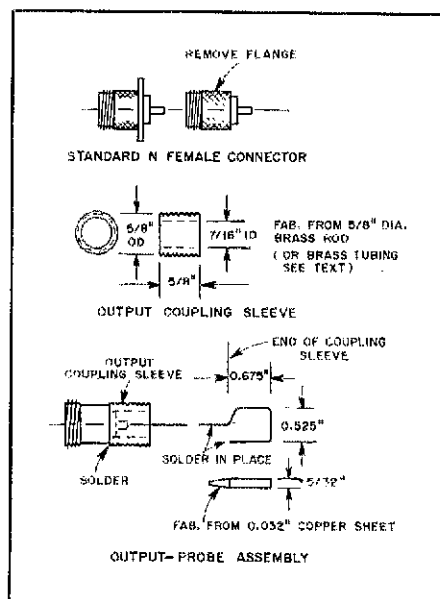

Fig. 7 — Output-probe/connector assembly details.
- J2 — Modified Type-N connector. See text and Fig. 7.
- L2 — Output-coupling loop. Part of output-connector assembly. See text and Fig. 7.
sheet that is 5/32 inches wide. Bend it to the dimensions shown in Fig. 7. We will solder the output connector together later.
connector (silver plated) is used for the output probe/connector. See Fig. 7. First, remove the flange with a hacksaw and file flush with the connector body. Next, make the output-coupling sleeve that is right for your application (threaded or unthreaded, depending on how you fabricated the ring). The sleeve will be the same length in either case. The output-coupling loop is fashioned from a piece of 0.032-inch-thick copper
While the grid assembly is cooling, assemble the output connector. See Fig. 7. Place the modified Type-N female connector, threaded end down, on the soldering fixture. Apply flux to the top and install the output coupling sleeve. Allow both parts to heat before applying solder. Carefully remove the soldered output connector from the fixture. When it has cooled, solder one end of the loop to the center pin of the N connector and the other to the output coupling sleeve.